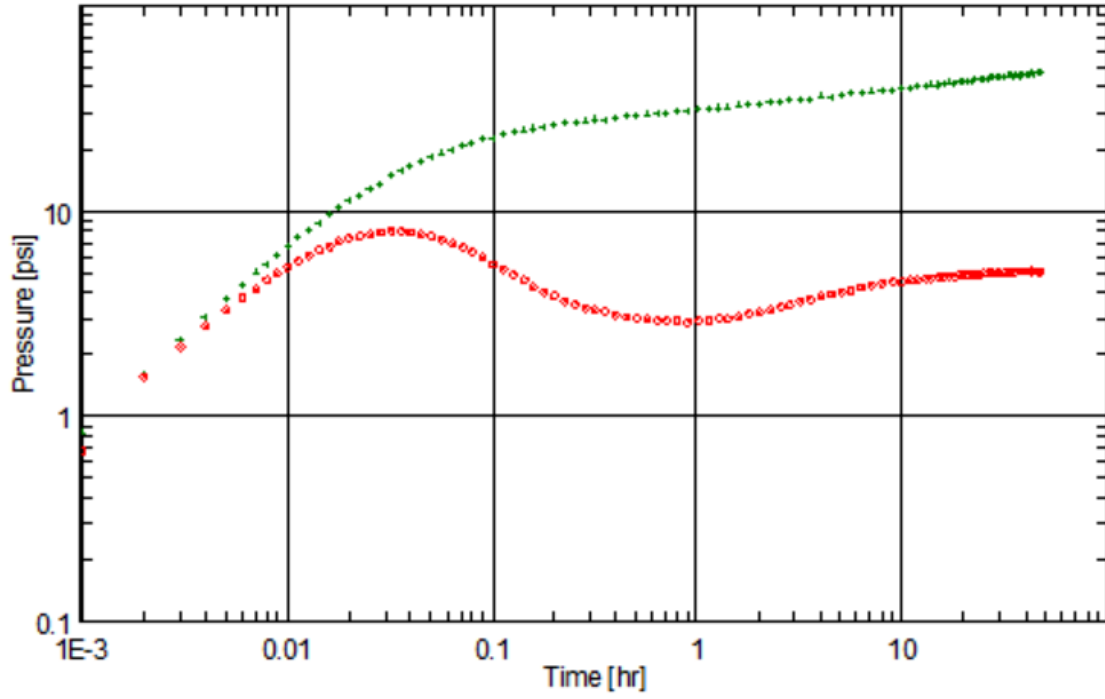
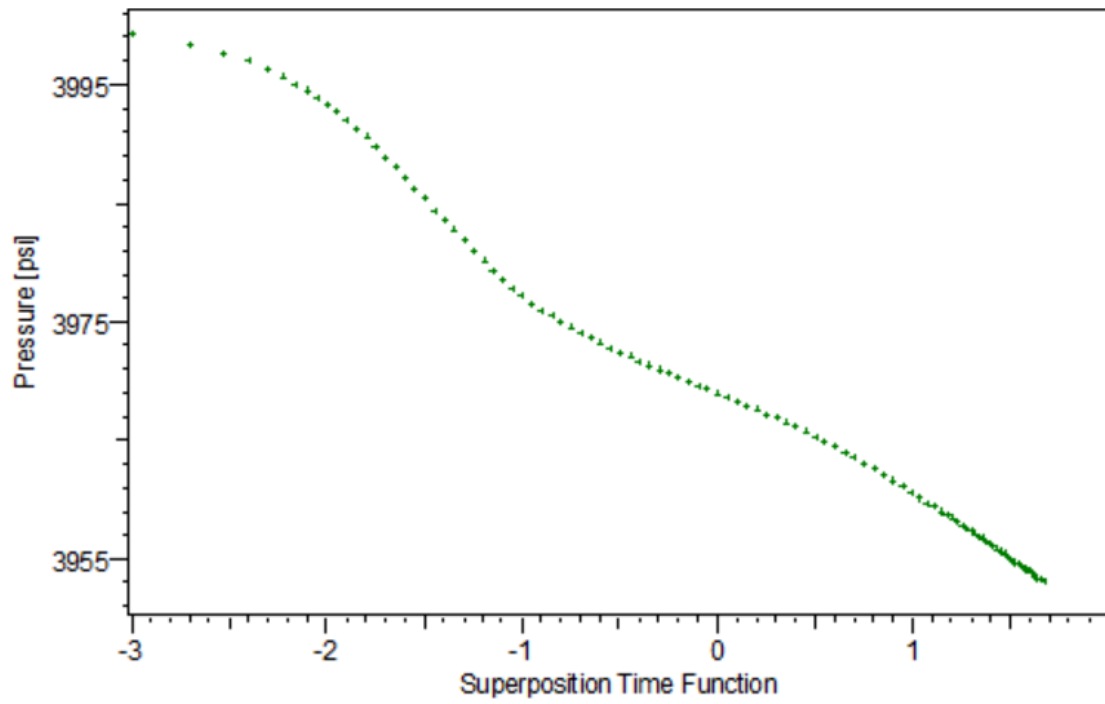

Figure 1: Pressure drawdown (green) and pressure derivative (red) for vertical well near sealing fault (log-log plot).
Figure 2: MDH (semi-log) plot for pressure drawdown from Figure 1. Superposition time function: $\log t$.
With data from a 24 hours drawdown in a vertical well producing at 200 STB/D and located nearby a sealing fault, use parameters from Table 1, pressure drawdown data from Table 2 and Fig. 1 and Fig. 2 to answer the questions and carry out the analysis below.
- (a) Fig. 1 shows a log-log plot of the drawdown data. Identify flow regimes in the data and indicate the range (start and end). (6 p.)
- (b) With Fig. 1 and Fig. 2 as references, carry out a standard semi-log analysis of the drawdown data based on representative data points from Table 2 to compute m , k , Δp_{1hr} and S . (8 p.)
- (c) Based on the semi-log plot (Fig. 2), estimate approximate distance to the sealing fault using intersection of straight-lines with slopes characteristic for (hemi-) radial flow regimes. (2 p.)
- (d) With Fig. 1 and Fig. 2 as references and assuming that only late drawdown data after 10 hours of production are available without any knowledge about sealing fault nearby the well, compute m , k , Δp_{1hr} and S . (8 p.)